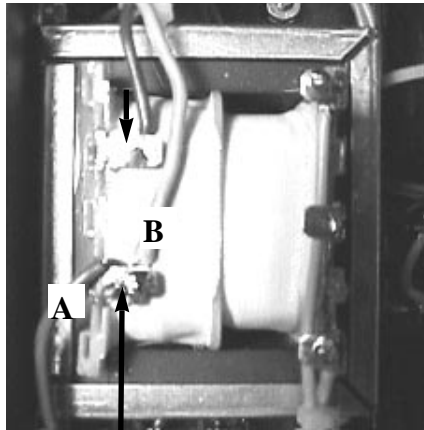

Figure 3a
**Final wiring should look like Figure 3a.**